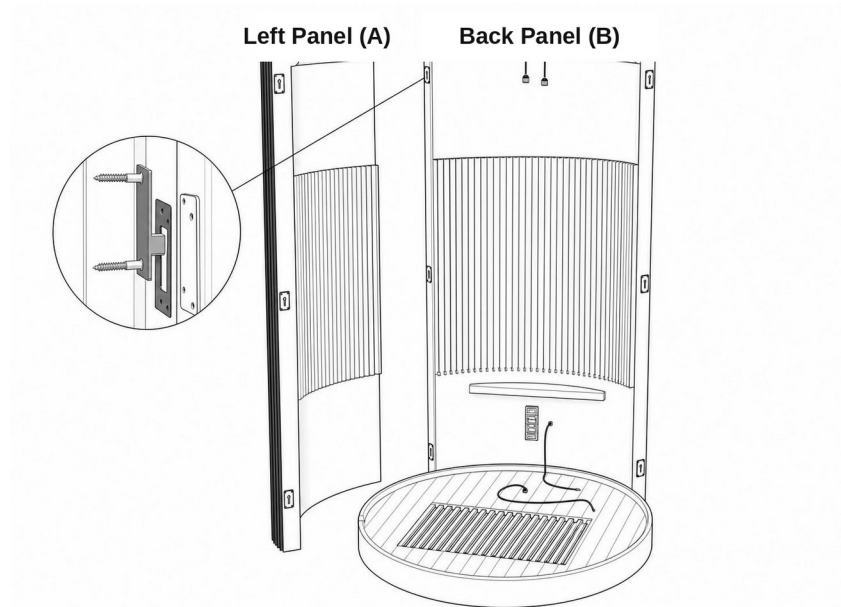

Figure 6. Left Panel (A) aligned with the Back Panel (B). The inset shows one of the three recessed keyhole slots that drop onto the Back Panel connectors.
- Position the Left Panel (A) against the left edge of the Back Panel, left as you face the front of the sauna, and align its three recessed keyhole slots with the matching connectors on the Back Panel (Figure 6).